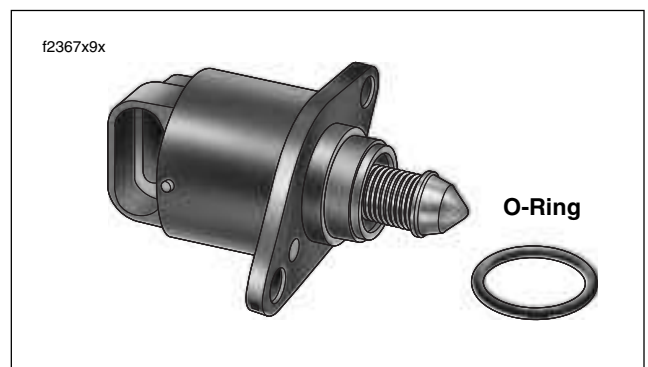

Figure 9-37. IAC
3. Pull IAC from bore of induction module. Remove O-ring from counterbore. Discard O-ring. See Figure 9-37.